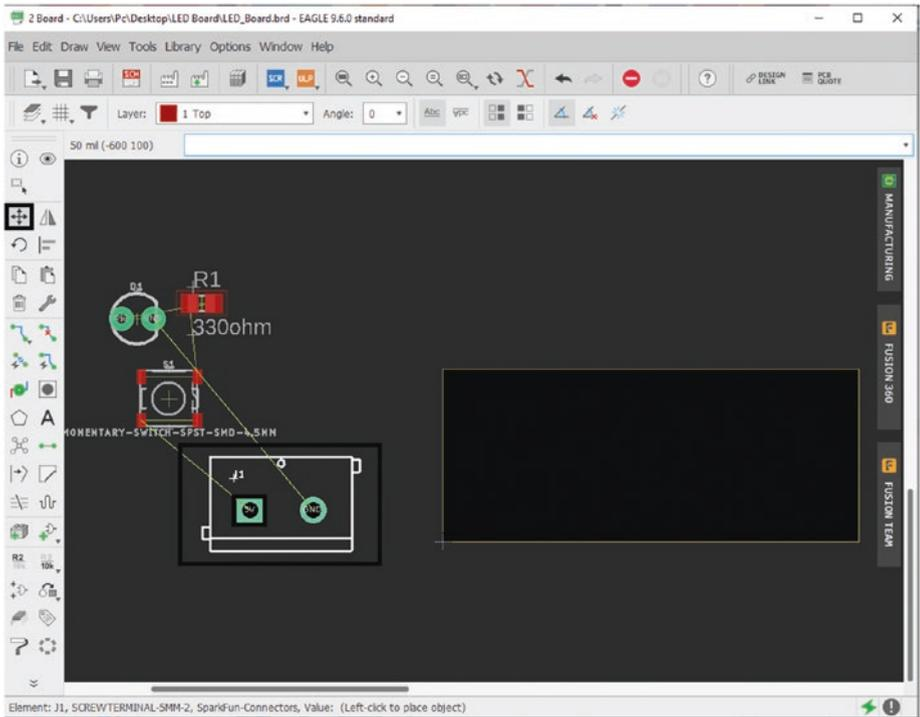

Figure 5-63. Select the “Move” button
- Click the “Move” button and select the terminal block. See Figure 5-63.